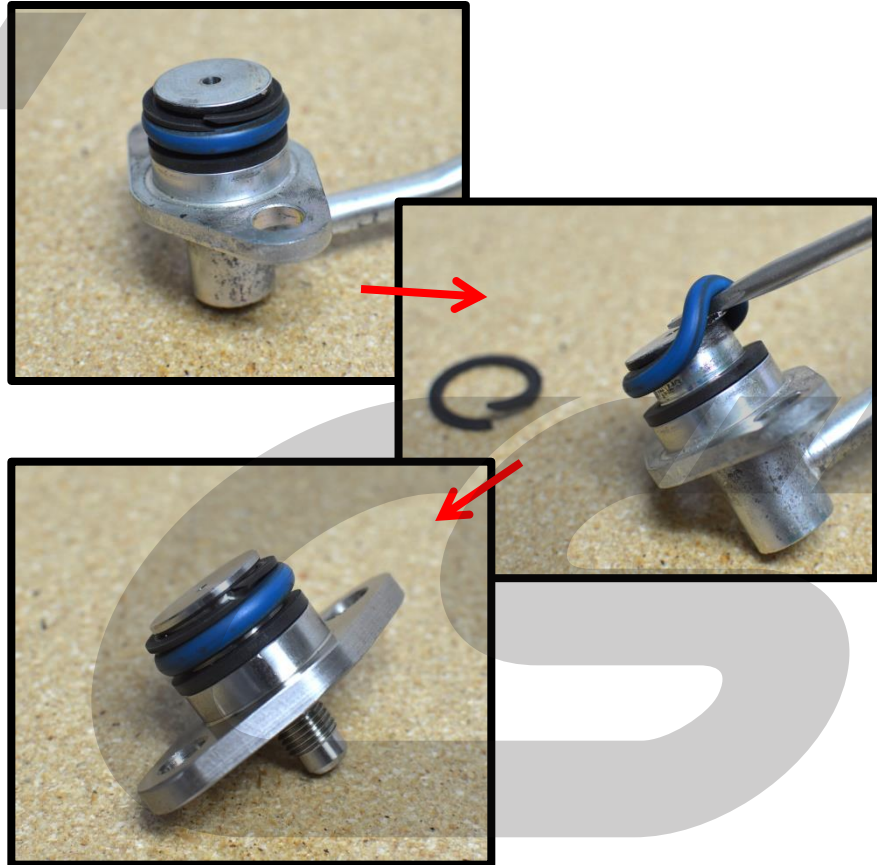

Figure 7a
- a) Follow the images in **Figure 7a**.